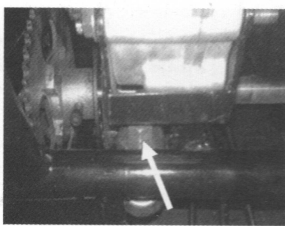

Fig.2
a. Adjustment nut : turn upward will be chain loose, tight conversely . (See Fig.2)